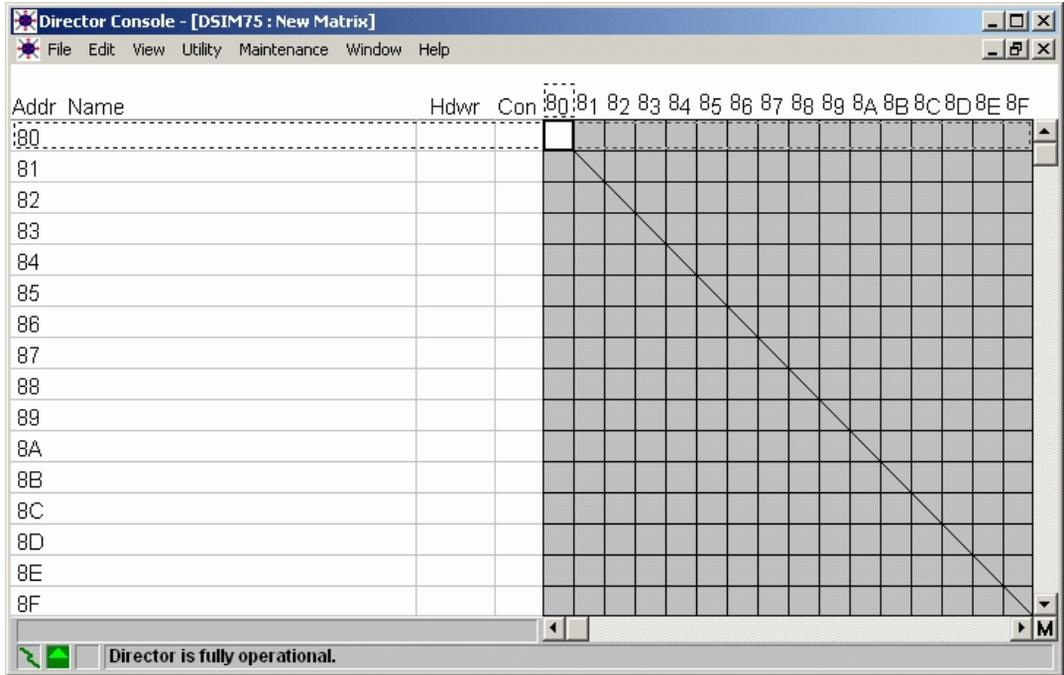

Figure 31 Director Console - New Matrix Window
6. Click **OK**. The *Director Console - New Matrix* window displays (Figure 31).
1. At the ESCON server, ensure the director console application is open. Record the director name (up to eight characters in length) that appears in the title bar of the *Director Console - New or Active Matrix* window (Figure 31).